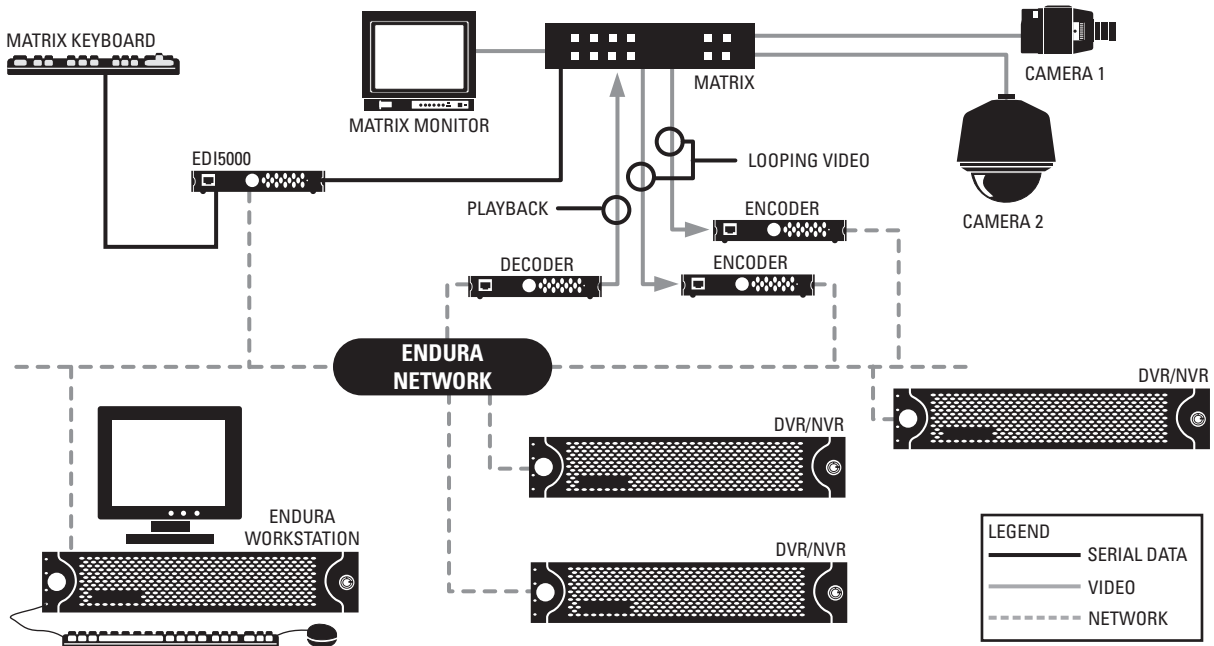
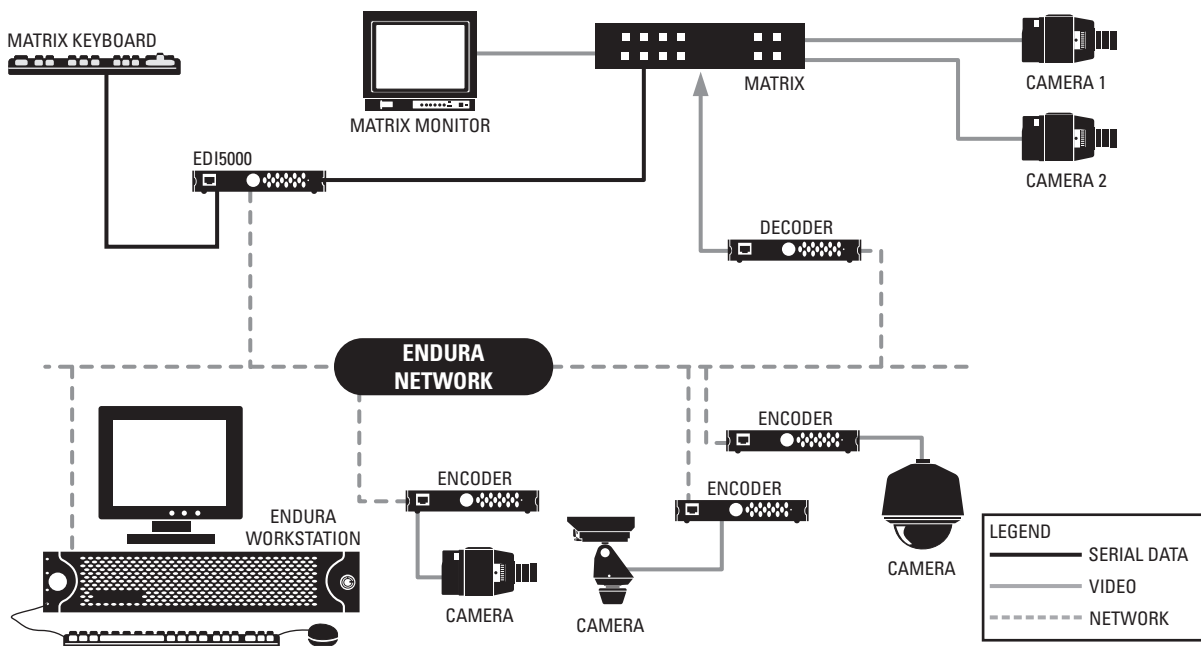

Figure 1. Sample System Using Endura to Record Matrix Video
Figure 2. Sample System Using Endura to Expand Video Capacity
- **Endura recording system:** You can use the Endura system to record video from matrix system cameras. In this application, analog video from matrix system cameras is looped to Endura encoders and converted into digital video streams, which are recorded by Endura system recorders. When an operator views the recorded video in the matrix system, Endura decoders convert the recorded video streams to analog video. A simple example of this application is illustrated in Figure 1 on page 7.
- **Endura expansion system:** You can use the Endura system to expand the number of cameras that can be viewed in the matrix system. In this application, video from cameras in the Endura system is routed through Endura decoders and converted into analog video that can be viewed in the matrix system. An example of this application is illustrated in Figure 2 on page 7.
Figure 1 and Figure 2 on page 7 illustrate simple systems that each provide one method of integrating Endura with the matrix system. A more complex system could use both methods (Endura for recording and Endura for expansion) within the same system.